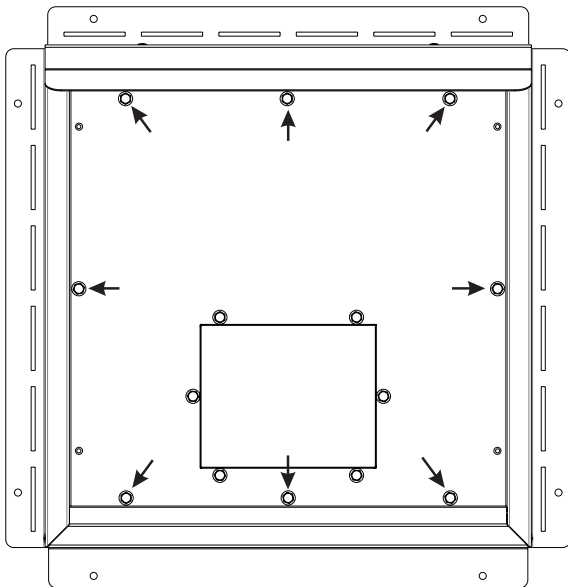

Figure 21
26. Secure the Back Plate to the Outer Termination with (8) # 10 X ½" screws. **See Figure 21.** Do not install the upper and lower side screws at this time.